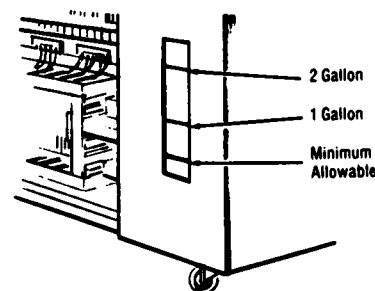

Figure 2-1. CHECK DISINFECTANT LEVEL.
1. Check that the disinfectant level is above the minimum allowable level. See Figure 2-1.